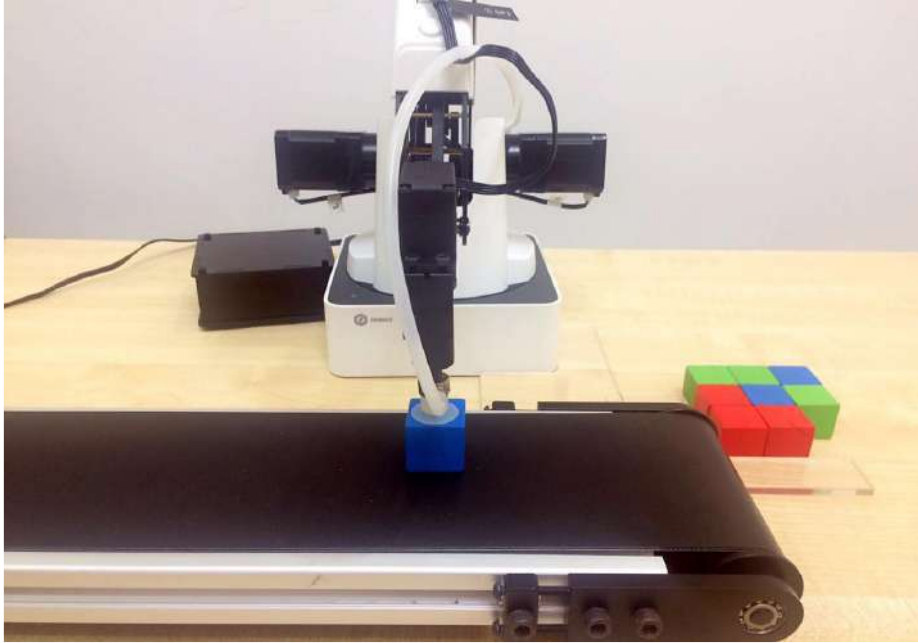

Figure 4.3 Adjust Placing position
1. Select **SuctionCup** to pick up the blocks, and then press and hold down the **Unlock** button to move the Dobot 1 to make the blocks on the conveyor belt. As shown in Figure 4.3.